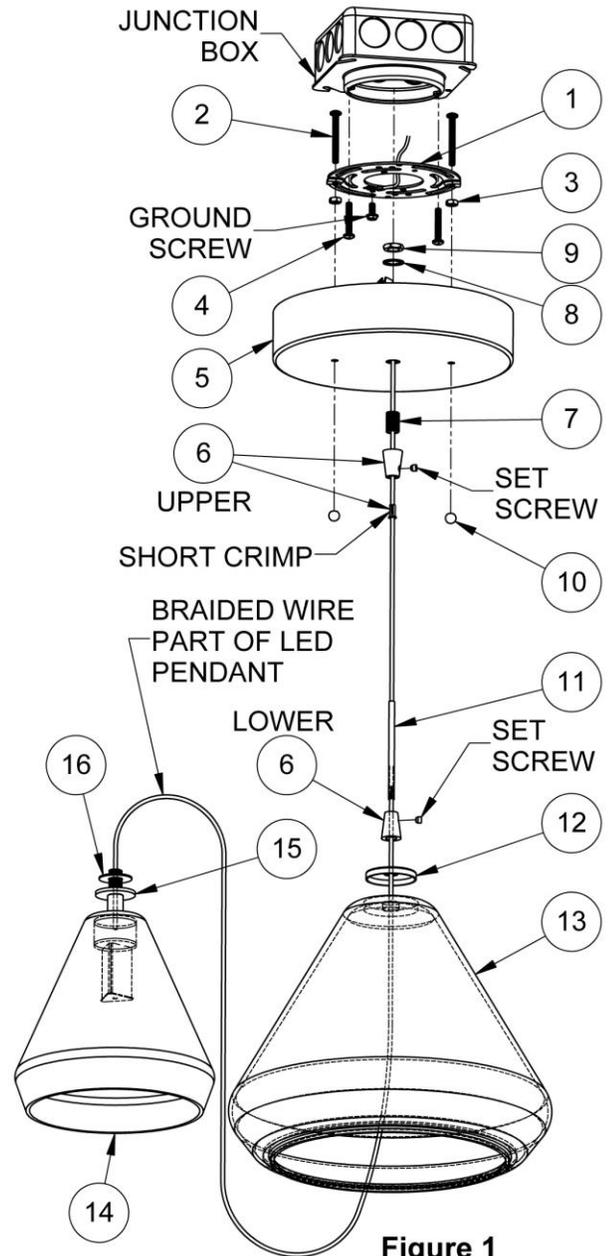

Figure 1
- Thread two 1-1/2" long screws (2) into recessed tapped holes in gem bar (1). Secure these with nut (3) per Figure 1 & 4.
- Mount gem bar (1), (2) & (3) to junction box with two shorter screws (4).
- Securely attach green (or green and yellow) wire from supply to green ground screw in gem bar (1). **This unit will not operate properly unless connected to a "grounded" electrical circuit. Electrical shock, overheating, low or no light output, and shortened lamp life can result if proper grounding is not done.**
- With gem bar installed on junction box, take canopy (5) and check that the holes line up with the screws (2) in the gem bar (as they may become slightly skewed from tightening or bending of the gem bar). If not, gently push screws together or pull apart so they line up.
- Uncoil braided wire, part of LED pendant inner glass assembly (14) and thread the loose end through outer glass (13), cap (12), lower strain relief, (6), long crimp (11) per Figure 1. Remove the tape from the nipple near rubber washer (16). Make sure threaded washer (15) is snug against the stem with approx. 11/16" to 7/10" of threaded nipple above (15) per Figure 2.
- Thread wire thru small end of cone shaped upper strain relief (6) first, with flange end of crimp so all face down toward LED pendant, Figure 1.
- Feed the braided wire through these items in the following order above (6): nipple (7), center hole of the canopy (5), lock washer (8) and jam nut (9) per Figure 1 & 4. Thread strain relief onto nipple. Place nipple in center hole of canopy. Tighten jam nut with lock washer onto nipple, inside of canopy.
- E. Secure with two finial nuts (10) onto the gem bar screws.
- F. To make any final adjustment to the pendant length, loosen set screw of upper strain relief (6) using hex-wrench provided. Raise or lower pendant light to desired height pushing excess wire into the canopy, or lower, bringing more wire out of the canopy.
- E. Re-tighten set screw making sure short crimp is inserted fully into upper strain relief (6), and the slot of crimp is not facing the set screw, Figure 1 & 4. **NOTE: Tighten set screw enough so that the wire is secure. Do not over-tighten. Recommended torque = 10 in-lbs.**